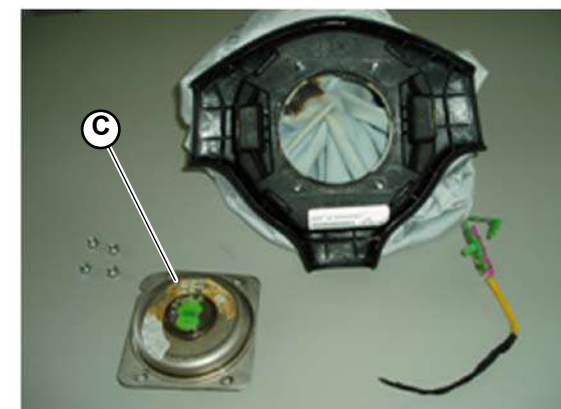

Fig.3
- Detach the inflator from the airbag (C-Fig.3).